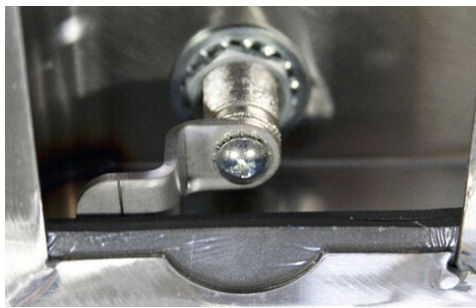

Fig. 42: Assembled Cam Lock with Felt Adhesive Strip
14. Insert the purchased Felt Adhesive Strip (ST0014) between the Cam Lock Latch and the header. Position it to keep the Cam Lock Latch from falling down when the key is in the lock (Fig. 42). When activating the lock, the latch will rub the felt strip.